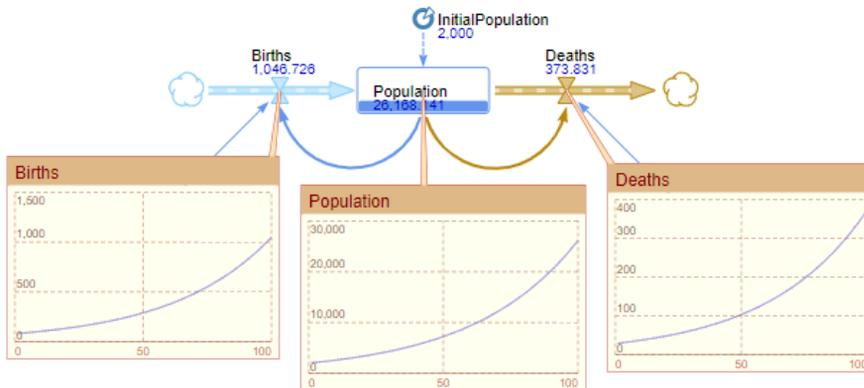

Figure 5.11 You can view the time plot of a dynamic variable in the **Inspect** window
14. Do the same for the **Population** stock and the **Deaths** flow. Watch the dynamics of the model until the time is approximately 100 years, then click the **Pause** button. The picture looks like that shown in Figure 5.11.